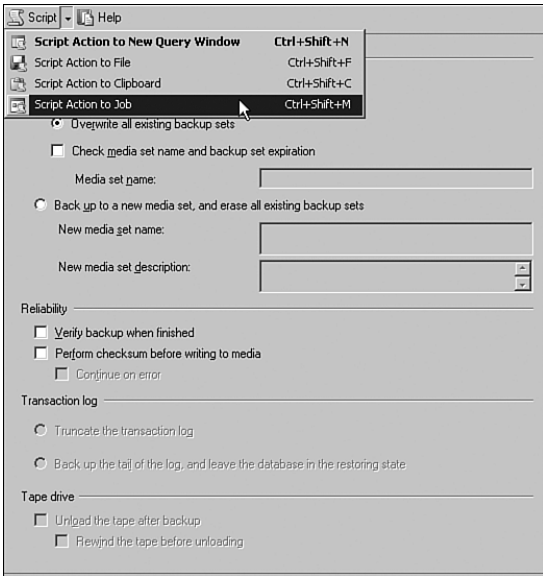

FIGURE 12.14 Create a SQL backup job.
7. After generating the script, select the Script menu at the top of the panel to bring up scripting options. You can direct the script action to a query window, save it to a file, copy it to the Clipboard, or schedule it as a job. We want to schedule the backup as a SQL job, so we will select the Script Action to Job option, which is displayed in Figure 12.14.